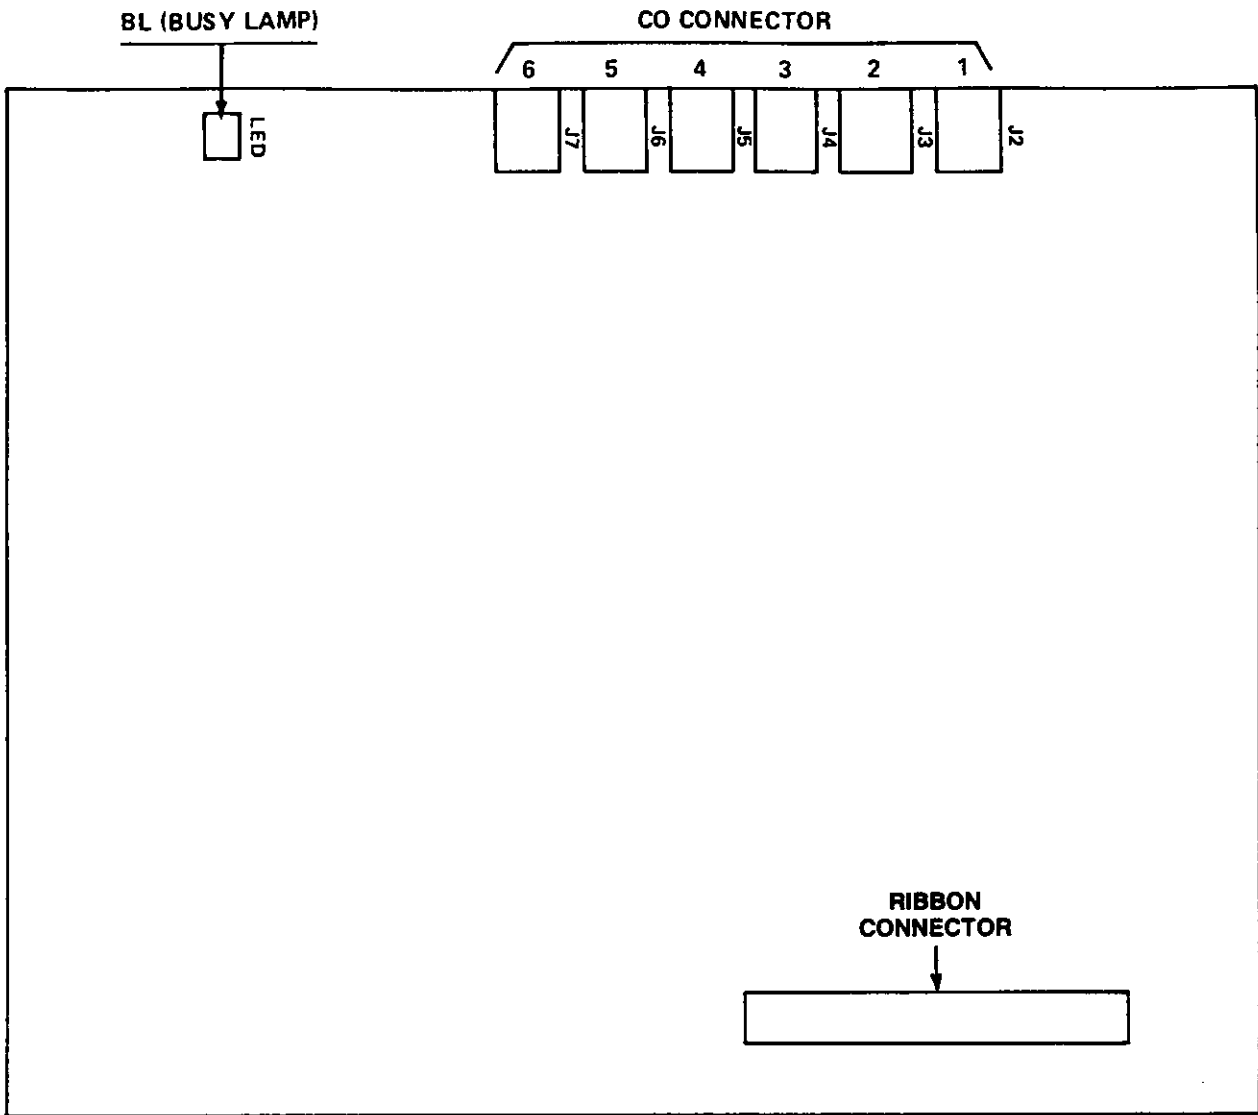

Figure 2-24. MARATHON COU Card.
The COU card provides control for six CO lines. All modular jacks (USOC code RJ 11C) and connections for six CO/PBX interfaces are found on the COU Card. The first of six CO/PBX jacks is a power failure port which facilitates the use of the outside pair of conductors for direct connection to the CO/PBX line in the case of a power failure. This card can be programmed by system option for either dial pulse output signalling and/or DTMF output signalling (it is factory programmed for DTMF). An associated LED indicates a busy condition on any one of the CO/PBX lines on the COU card. See Figure 2-24. The KSU comes equipped with one COU. (None are provided with ESU).
3. WHEN INSTALLING THE CIRCUIT CARDS, CHECK THAT THE CARDS ARE PROPERLY POSITIONED IN THE CARD FILE TRACKS. Ensure that all cables are properly connected before fully inserting the cards into the cabinet. Inserting a card that is not positioned or connected correctly will damage the card. Secure all cards with the card file sliding bracket. See Figure 2-24 for proper card positioning.
See Figure 2-24. Each ESU can be equipped with up to two COU cards. Refer to Table 2-8 for cable interfacing designations.